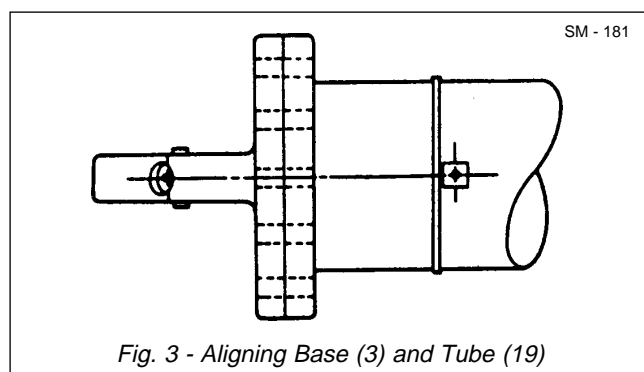

Fig. 3 - Aligning Base (3) and Tube (19)
2. Install new seal (20), wear ring (21) and wiper (22) into tube (19).
3. Install new seals (15) on tube (16) and install tube (16) in tube (13).
4. Install new wear ring (11) and piston rings (12) on tube (13) and install tube (13) in tube (19).
5. Install new seal (8), wear ring (9) and wiper (10) in tube (7).
6. Install new wear ring (6) on inner tube (7) and install inner tube (7) in outer tube (19).
7. Place new backup ring (24) and 'O' ring (23) on end (26).
8. Install end (26) assembly into tube (13) and tighten end (26) assembly to a torque of 1 900 - 2 300 Nm (1 400 - 1 700 lbf ft).
9. Install set screw (14) into tube (13).
10. Install new 'O' ring (5) and wiper (4) on base (3) and align base (3) and tube (19) as shown in Fig. 3.
11. Secure base (3) to tube (19) with bolts (1) and nuts (18). Tighten bolts (1) to a torque of 156 - 176 Nm (115 - 130 lbf ft).